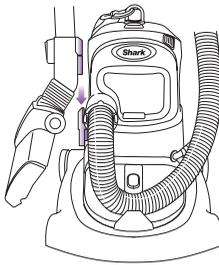

Fig. 20
- 4 Insert the clip on the back of the bare floor nozzle into the slot on the side of the vacuum. (fig. 20)